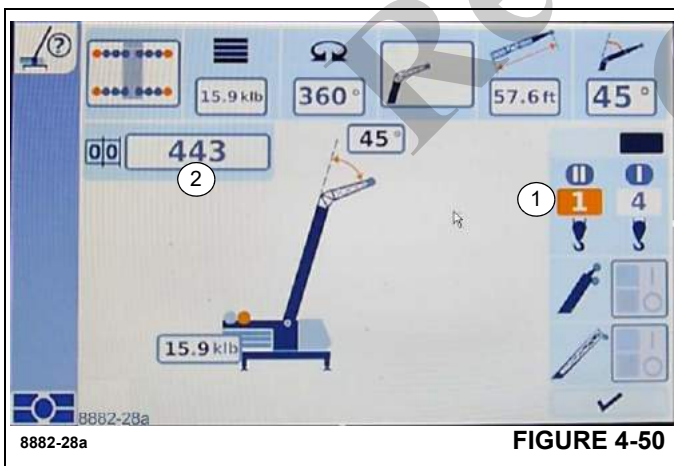

FIGURE 4-50
- Select and confirm the symbol (1), (Figure 4-50) – arrows on the left and right are displayed.